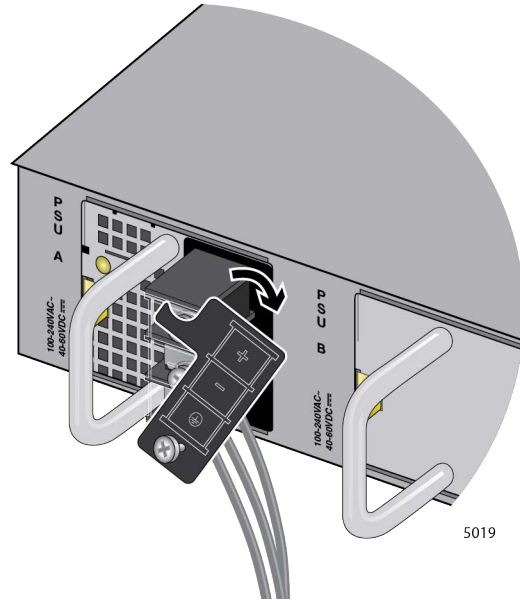

Figure 151. Accessing the Connecting Screws
3. Press the panel to the right to access the connecting screws. Refer to Figure 151 on page 259.